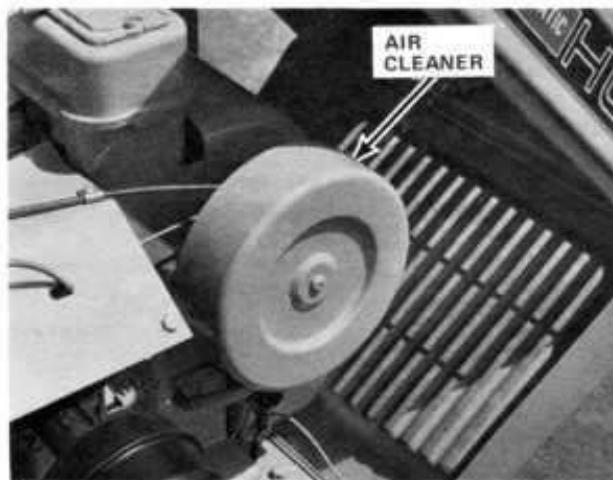

Figure 13
**AIR CLEANER** (Figure 13) — Dry Type should be cleaned regularly. A dirty air cleaner could cause engine damage. Refer to engine booklet for instructions.